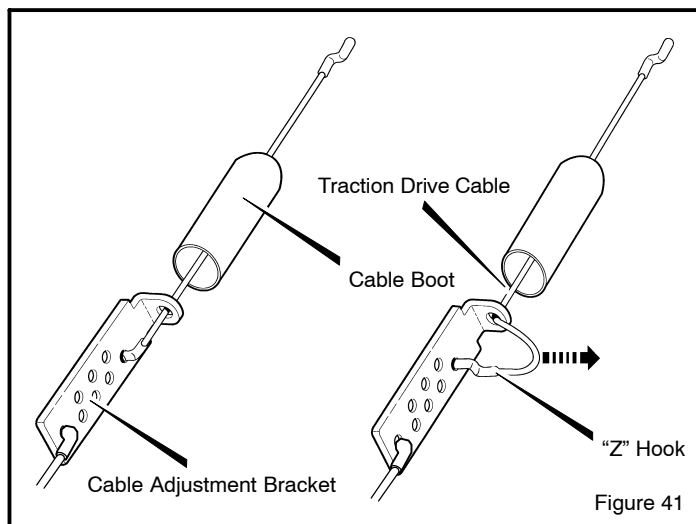

Figure 41
5. Slide the **cable boot** off the **cable adjustment bracket** (see Figure 41).